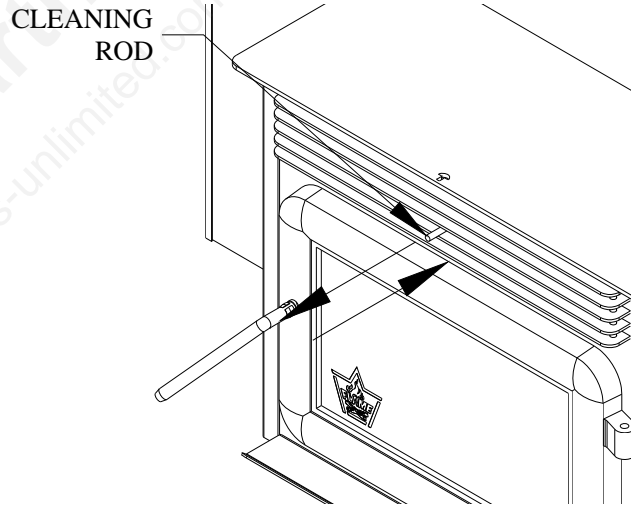

Figure 40
- c. With the door closed, clean heat exchanger tubes by sliding the cleaning rod back and forth. (see Figure 40).
- Heat Exchange Tubes** – Your FP-35 stove is designed with a built-in heat exchanger tube cleaner. This should be used weekly to remove accumulated ash on the tubes. Slide the cleaning rod back and forth two or three times from front to back (refer to figure 40). When finished, push the cleaning rod back in, behind the louvers.